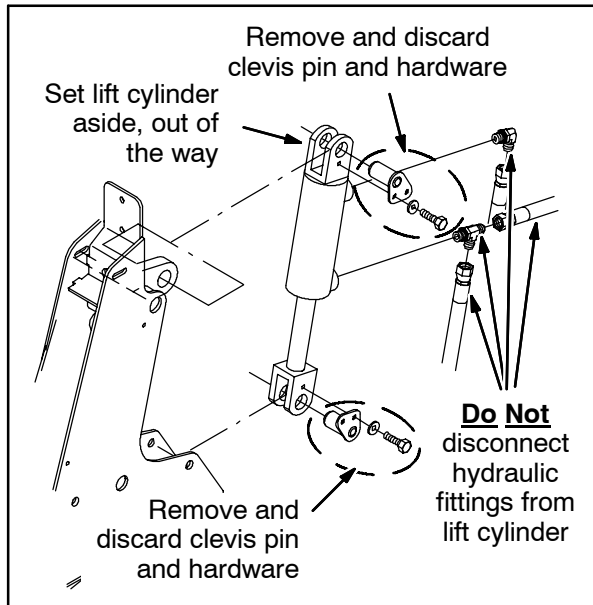

FIG. 3
1. Remove the two pins and hardware securing the lift cylinder to the conveyor lift assembly and place the lift cylinder aside, out of the way. Do Not disconnect any hydraulic hoses from the cylinder. Discard the pins and hardware. Refer to Fig. 3.